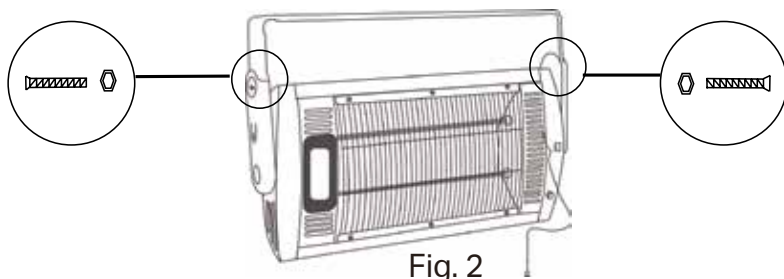

Fig. 2
3. Place the 2 x M4*25 Screws into each Rotating Arm with the nut after the heater is attached to the Mounting Bracket. See Fig. 2